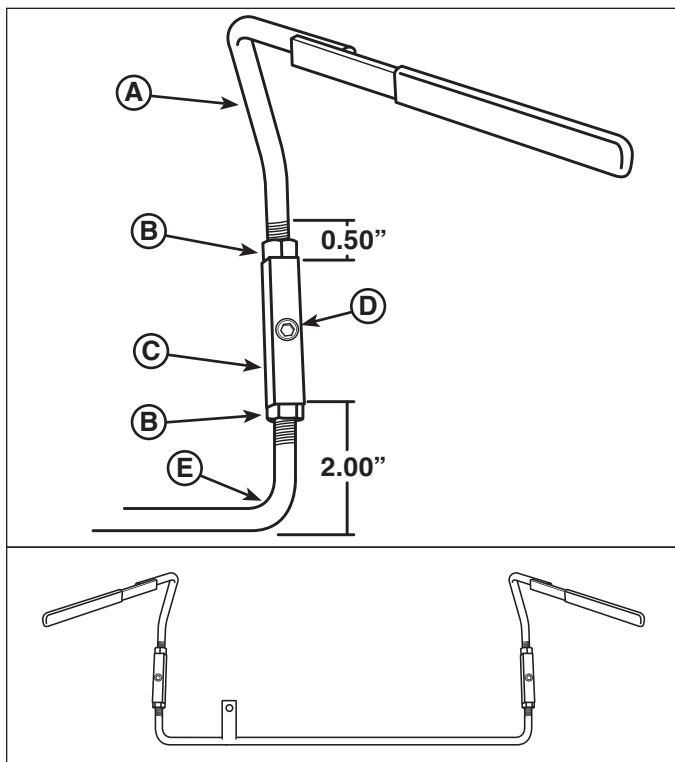

Figure 5. Preassemble The Mechanical OPC
1. Preassemble the mechanical OPC by threading a 3/8" lock nut (B, Figure 5) onto the OPC handle (A).
2. Thread the OPC handle into the adjuster linkage (C) until the end of the threads are one half of an inch (0.50") from the linkage as shown in Figure 5.
4. Thread a second 3/8" lock nut onto the OPC connector rod (E).
5. Thread the OPC connector rod into the adjuster linkage until the backside of the rod is two inches (2.00") from the linkage as shown in Figure 5.
7. Loosely thread the 3/8" set screw (D) into the adjuster linkage.